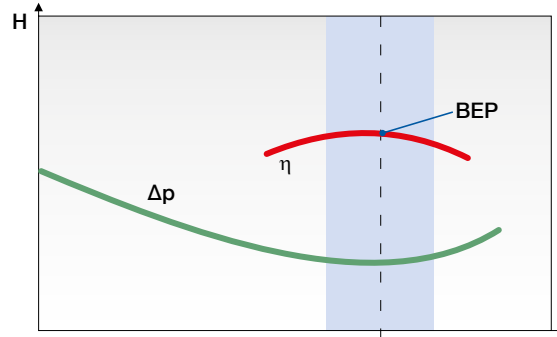

Fig. 9. Effect of position of duty point on pressure pulsation
b) Pressure pulsation level is influenced by the position of the duty point to BEP (Best Efficiency Point). Fig. 9 shows that the lowest pulsation is reached, if the duty point is near to BEP and to the left of it.